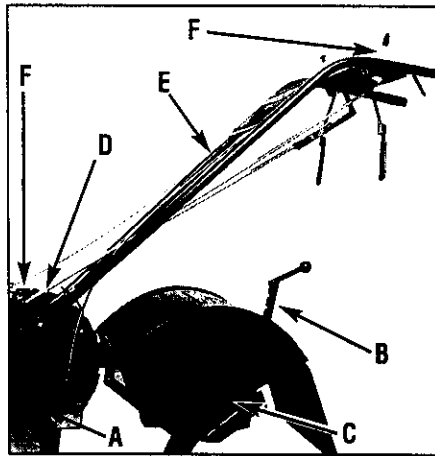

Figure 4-1
After every 10 operating hours, oil or grease the lubrication points shown in Figures 4-1 and 4-2 and described below.
- Remove wheels, clean wheel shaft (A, Fig. 4-1) and apply thin coating of grease to shaft.
- Grease back, front and sides of depth regulator lever (B, Fig. 4-1).
- Remove tines, clean tine shafts (C, Fig. 4-1) and inspect for rust, rough spots or burrs (especially around holes). File or sand smooth and coat ends of shaft with grease.
- Oil the threads on the handlebar height adjustment handle (D, Fig. 4-1).
- Oil the engine throttle cable (E, Fig. 4-1) and the wheel gear cable (F). Allow oil to soak in and then wipe off any excess.